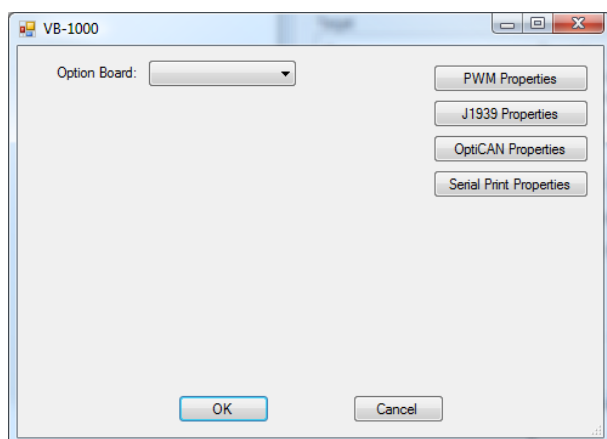

Figure 2.8 - VB-1000 Properties Window
2. Click the **PROPERTIES** button. The VB-1000 Properties Window will open. Refer to Figure 2.8.